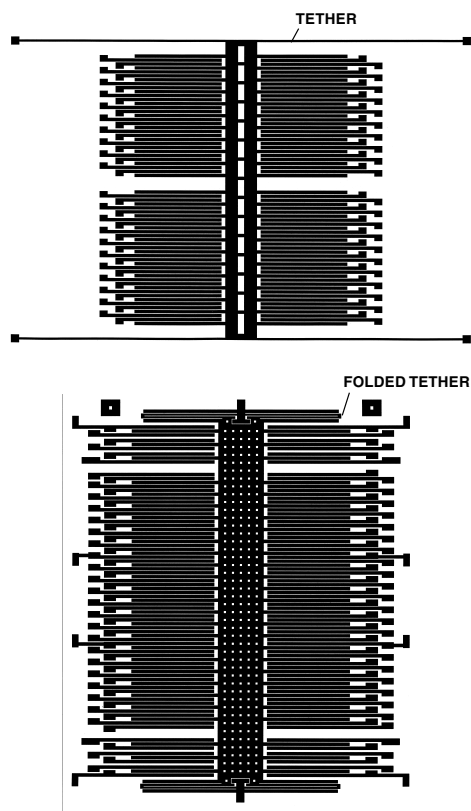

Figure 1. Silhouette plots of ADXL50 (upper) and ADXL150 (lower). Axis of motion is vertical.
**The sensor:** The silhouettes in Figure 1 compare the sensors used in the ADXL50 and the ADXL150. Both sensors have numerous fingers along each side of the movable center member; they constitute the center plates of a paralleled set of differential capacitors. Pairs of fixed fingers attached to the substrate interleave